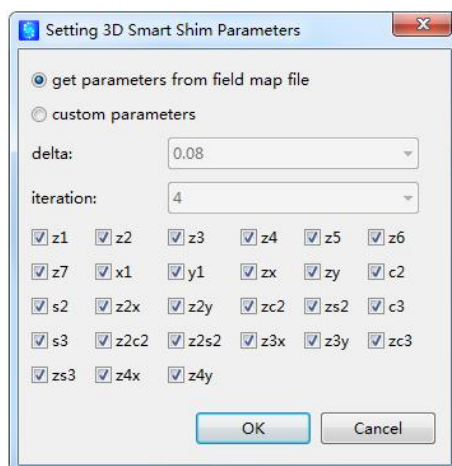

Figure 2.32 Setting dialog when Shim Map is selected
- (3) Click **Setting** button to open the dialog box for shimming parameters. User can select **get parameters from field map file**, or select **custom parameters** to give new values for delta and iteration, and select the shim coils to be used (Figure 2.32).